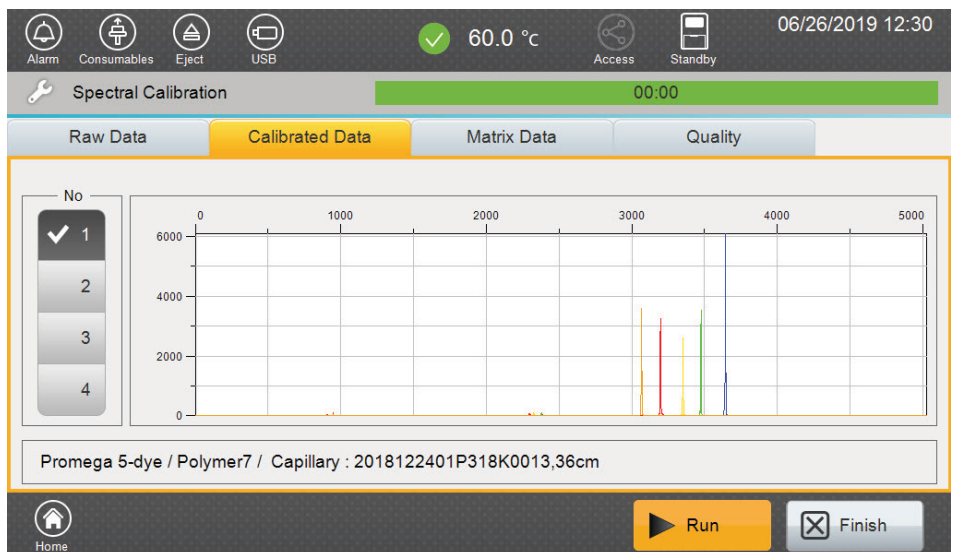

Figure 11. Spectral Calibration 'Calibrated Data' tab screen.
2. The 'Calibrated Data' tab can be used to view the matrix peaks with both baseline and spectral applied for each capillary (Figure 11).